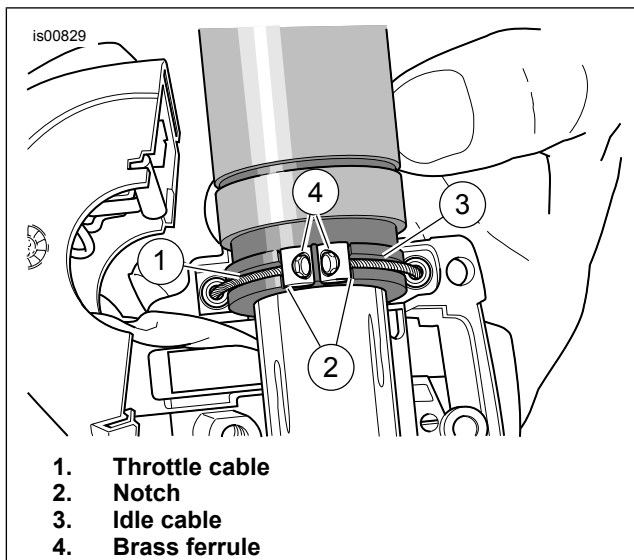

Figure 9. Throttle/Idle Control Cables
5. See Figure 9. Remove brass ferrules from notches on inboard side of throttle control grip. Remove ferrules from cable end fittings.
1. See Figure 9. Apply graphite lightly to the throttle grip inside the switch housing and on throttle end of handlebar.
6. See Figure 9. Position lower switch housing beneath throttle control grip. Install two brass ferrules (56508-76) from kit onto cables, seating the ferrules in their respective notches on throttle control grip. The cables must be captured in the grooves molded into the grip.